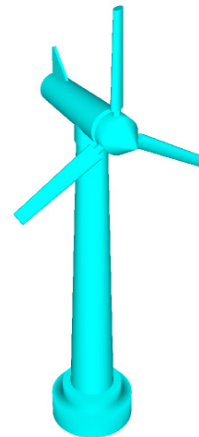

Figure 3-105 Model after shading
2. Choose the **User Defined Texture Diagnostic Shader** tool from the **Diagnostic Shade** dialog box; the model is shaded, as shown in Figure 3-105. You can choose the rest of the buttons in this area to get other shades.